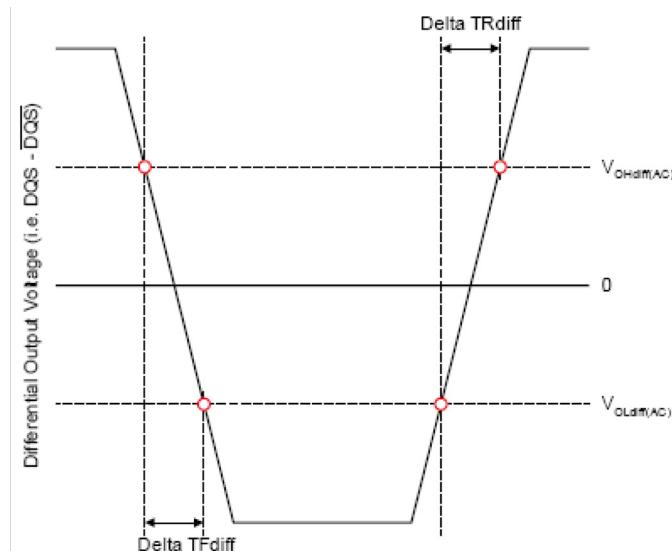

Figure 96 — Differential Output Slew Rate Definition
With the reference load for timing measurements, output slew rate for falling and rising edges is defined and measured between VOLdiff(AC) and VOHdiff(AC) for differential signals as shown in Table 35 and Figure 96.